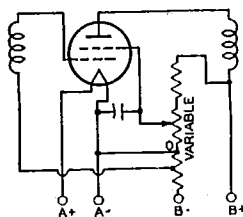

Fig. 118—Tetrode circuit in which screen-grid voltage is obtained from a potentiometer.
The positive voltage for the screen grid (grid No. 2) of screen-grid tubes may be obtained from a tap on a voltage divider, from a potentiometer, or from a series resistor connected to a high-voltage source, depending on the particular tube type and its application. The screen-grid voltage for tetrodes should be obtained from a voltage divider or a potentiometer rather than through a series resistor from a high-voltage source because of the characteristic screen-grid current variations of tetrodes. Fig. 118 shows a tetrode with its screen-grid voltage obtained from a potentiometer.
**Screen-grid voltage variation** for the rf amplifier stages has sometimes been used for volume control in older-type receivers. Reduced screen-grid voltage decreases the transconductance of the tube and results in reduced gain per stage. The voltage variation is obtained by means of a potentiometer shunted across the screen-grid voltage supply. (See Fig. 118.) When the screen-grid voltage is varied, it must never